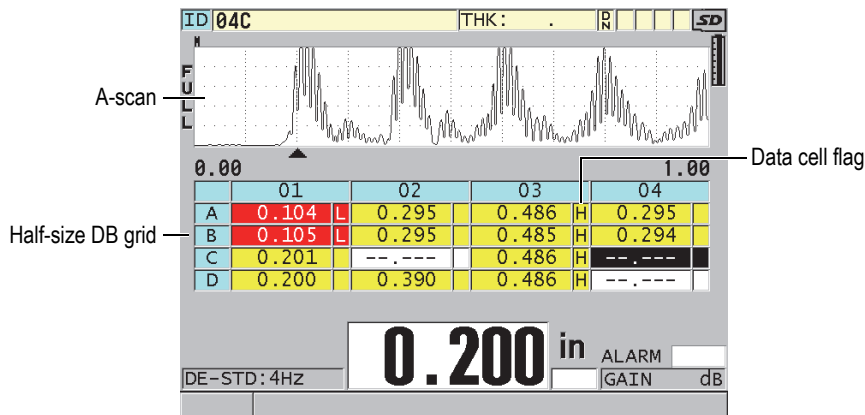

Figure 10-8 Example of the half-size DB grid
The database grid (DB grid) is a table representation of 2-D data. This representation gives you the ability to move freely in any direction on a grid rather than follow a preset list of IDs. Instead of automatically incrementing to the next ID location, you can use the arrow keys to move to a location that is more convenient. You can simultaneously display the A-scan, the DB grid, and the thickness reading (see Figure 10-8 on page 167). You can configure the grid cells to show a data cell flag and a background color corresponding to the range in which their thickness reading falls.
8. Set **DATA CELL FLAG** to one of the available options to display a single data flag with each data cell in the DB grid. The data cell flag is a letter that appears in a small box to the right of the thickness value in the data cell (see Figure 10-8 on page 167). The available options are: